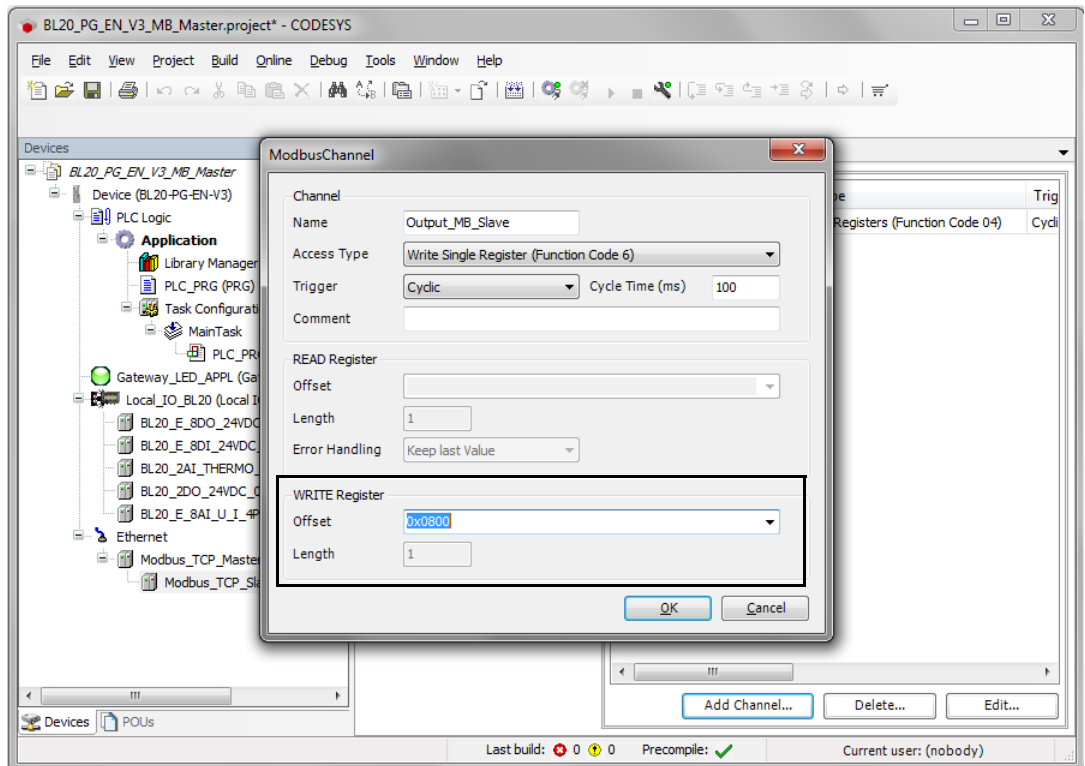

Fig. 31: Adding Modbus Slave channels
- Observe the process data offsets of the slave. In the example (Fig. 31: Adding Modbus Slave channels) the slave's process output data start with register 0x0800.